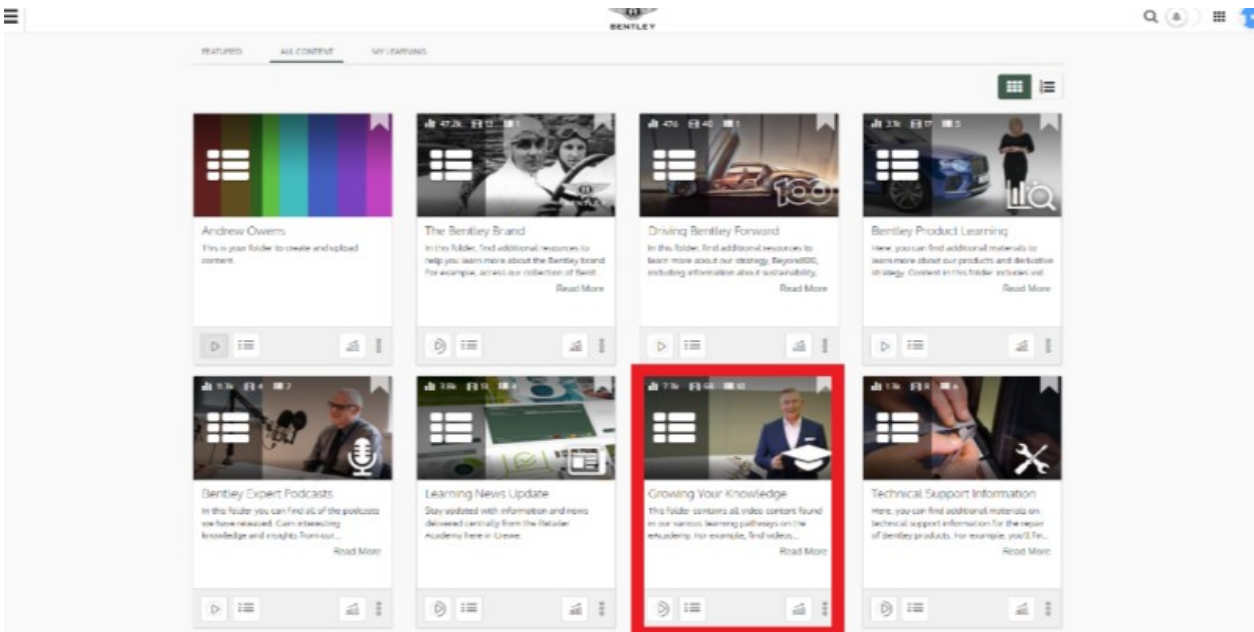

Figure 3
- Select - Growing Your Knowledge (Figure 3)